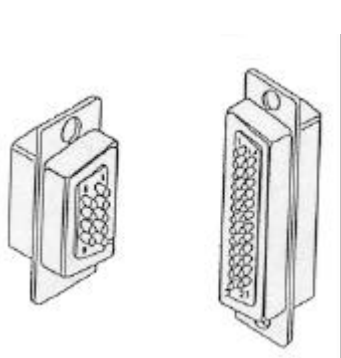

Figure 2-22: 9 Pin Sub D Receptacle, Left
- Connect the DIN plug of the connecting cable, shown on the left side of Figure 2-22, to the OMNI-4000.
- Connect the 25 pin plug of the connecting cable, shown on the right side of Figure 2-22, to the serial port of the printer.